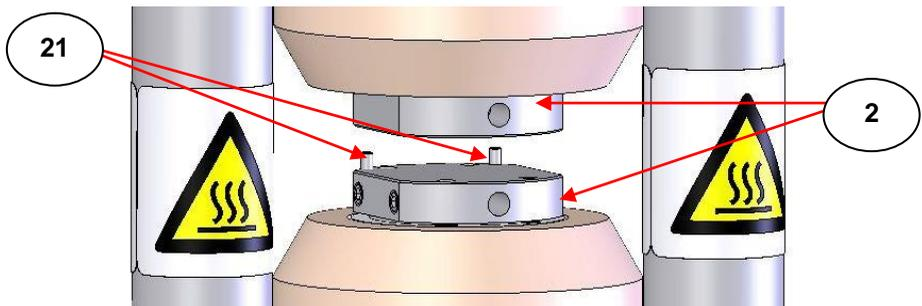

Fig 8. Location Pins on Lower Heated Surface for Central Positioning of the Film Maker Assembly (3)
On the lower heated surface there are two small location pins (21) that help to correctly centralise the Film Maker Assembly (3) into position. (See Fig 8.) Insert the Film Maker Assembly (3) until the parts engage and touch both location pins (21).